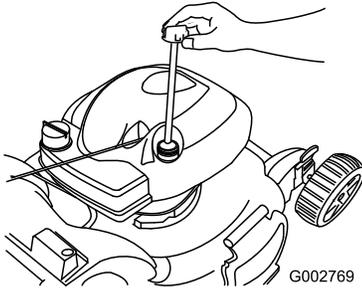

Figure 39
2. Retirez la jauge (Figure 39).